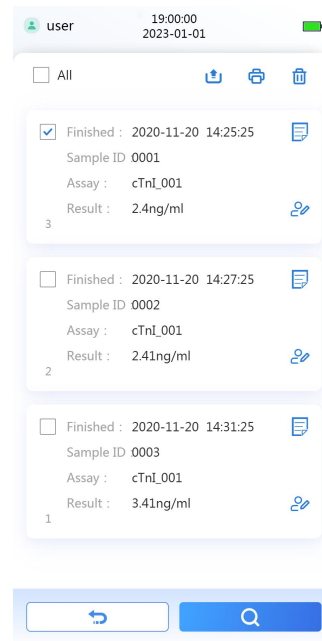

Figure 10 Result List Interface
- After clicking the main screen button , you will enter the results interface (Figure 10 above).